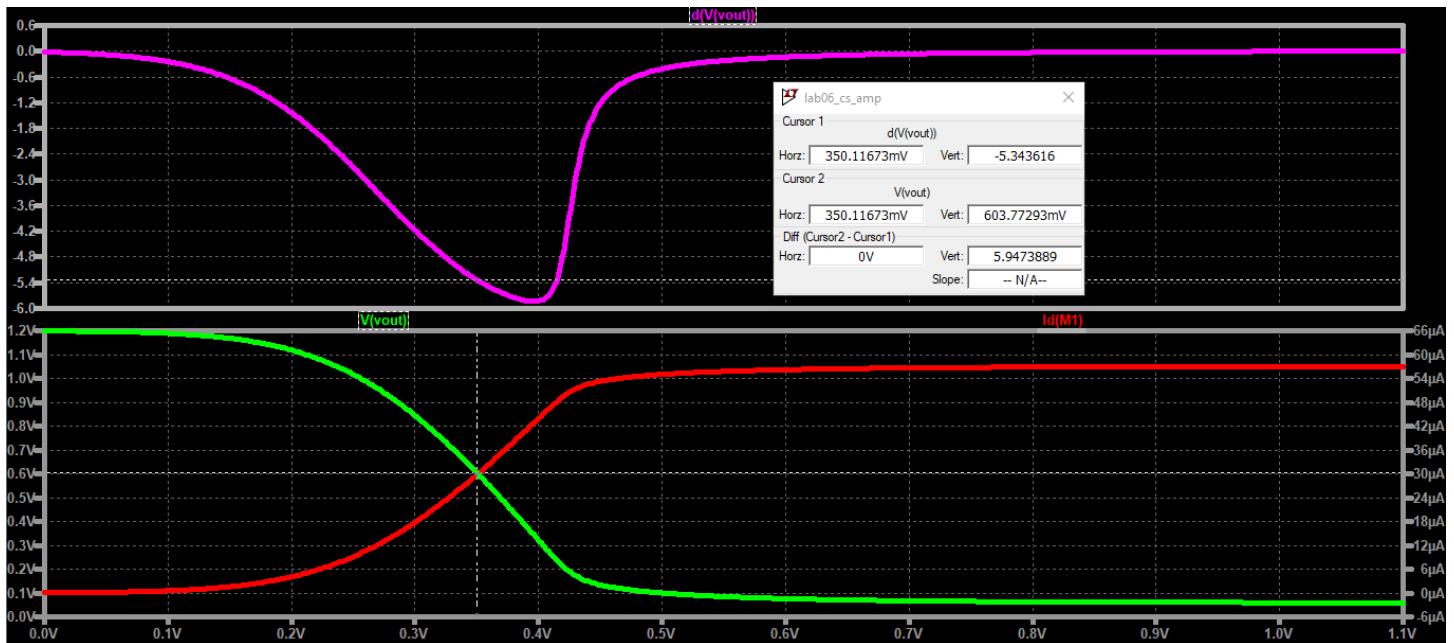

Figure 2.7 Gain (A_v) plot vs V_{GS} . When $V_{GS} = 0.35$ we have $A_v = -5.334$
- You should get Figure 2.7.
Run the simulation and plot the gain. You should get the same figure below and $A_v = 5.33$ when $V_{GS} = 0.35 \text{ V}$. Observe that the figure below is just the magnitude (hence absolute value) of the gain and it is the same curve in Figure 2.7 (top plot).
Ultimately, there is a sweet spot where an appropriate V_{GS} can produce the maximum gain. Looking at Figure 2.7 tells us that the highest gain for the CS amplifier occurs when $V_{GS} \approx 0.4 V$. This leads to roughly around $A_v \approx 6$. This also results in a $V_{OUT} \approx 0.3 V$. Small V_{GS} and small V_{DS} yields an optimally high gain. There's another caveat to this analysis, the g_m and R_L terms were not really specified. In actual practice, there is a desirable g_m and R_L value. For example, some amplifiers require a minimum g_m to support the desired speed. Others need to drive a fixed R_L load. If a specific R_L is needed, then the current can be calculated from the voltages, and this current can be used to compute for the effective g_m (i.e. $g_m = \frac{2I_{DS}}{V_{GS} - V_{TH}}$). On the other hand, if a certain g_m is given (or required), the current can be computed from the desired V_{GS} , then compute the needed R_L to achieve the target V_{OUT} (i.e. $R_L = \frac{V_{DD} - V_{OUT}}{I_{DS}}$).